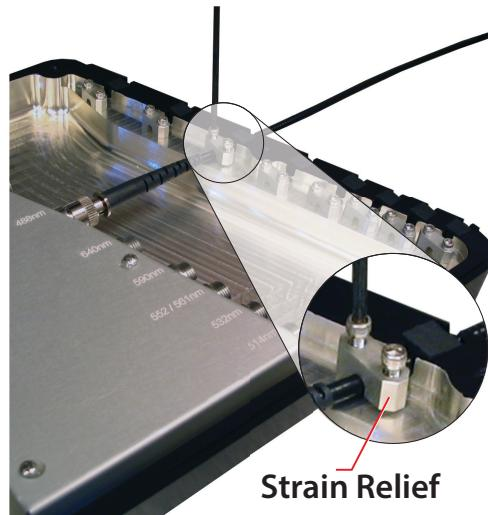

Figure 5-13. Secure the Strain Relief Screws
- Using the 5/64" hex wrench, secure the strain relief using the two screws that were previously removed, as shown in Figure 5-13. Torque the